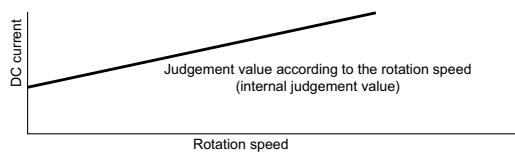

Fig. 6-4
Fig. 6-4 shows the rotation speed control. When the voltage at pin ⑩ of the microcomputer exceeds the set value, the microcomputer decreases the rotation speed of the compressor and reduces the load.